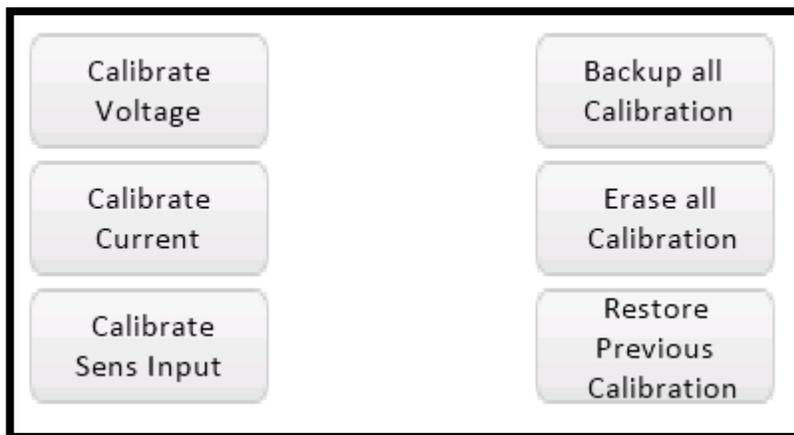

Figure 22. MAXREFDES183# Calibration options.
27. The Calibrate menu (**Figure 22**) allows the user to calibrate the complete system; details will be explained in the *Calibrating the MAXREFDES183#* section of the Quick Start Guide.